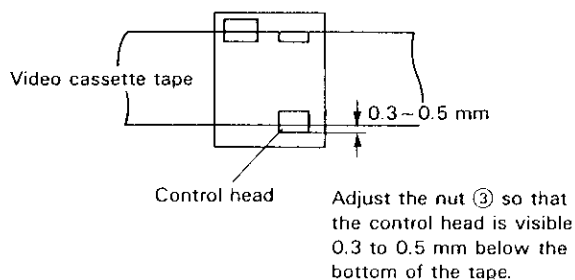

Figure 1-19.
#### ●Replacement (See Figs. 1-19 and 1-20.)
7. Play an alignment tape and roughly adjust the height of the A/C head, visually, by turning the A/C head adjusting hexagon nut ③ with the box driver (JiGDRIVER110-7) until the tape comes to the position shown below. (See Fig. 1-19.)